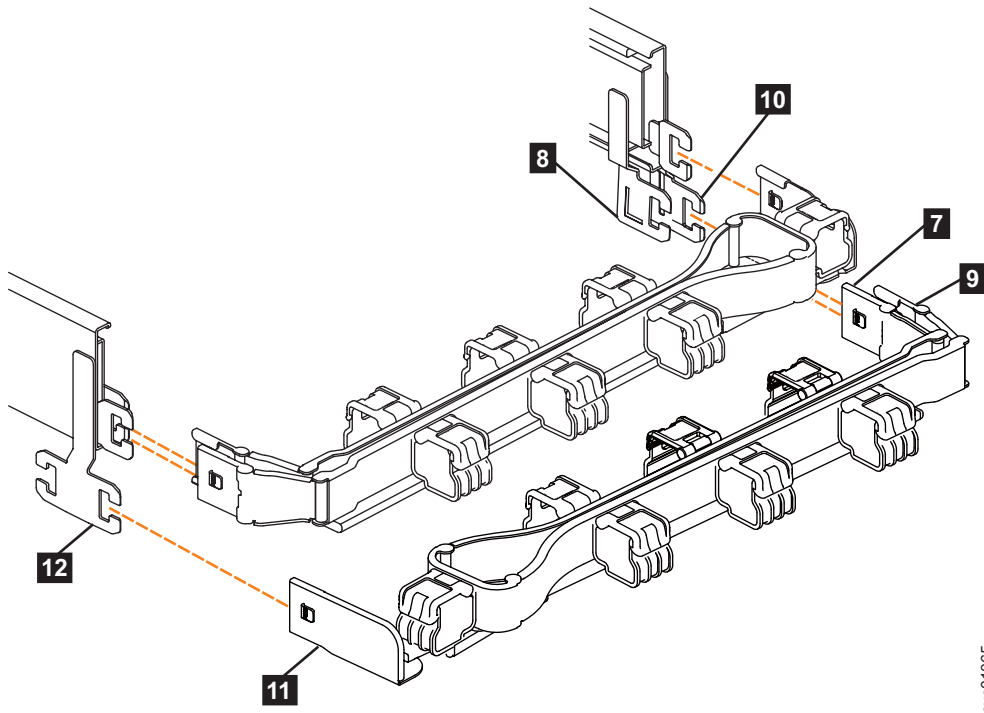

Figure 55. Comparing the location of the components of the CMA assemblies
Note: The procedure for attaching the lower CMA assembly is the same as the procedure to attach the upper CMA assembly. However, the connector locations are reversed. For comparison, Figure 55 on page 72 shows the upper and lower CMA assemblies as they are aligned to the support rails. The support rail connector of the upper CMA attaches to the right rail. The support rail connector of the lower CMA **11** attaches to the left rail.
5. Install the inner connector of the lower CMA assembly (**7**) to the inner member of the right support rail (**8**), as shown in Figure 55).
6. Install the outer connector of the lower CMA assembly (**9**) to the outer member of the right support rail **10**, as shown in Figure 55.
7. Attach the support rail connector on the lower CMA assembly (**11**) to the connector on the left support rail (**12**), as shown in Figure 55. Ensure the lower CMA assembly is securely attached to the hooks on the end of the support rails.